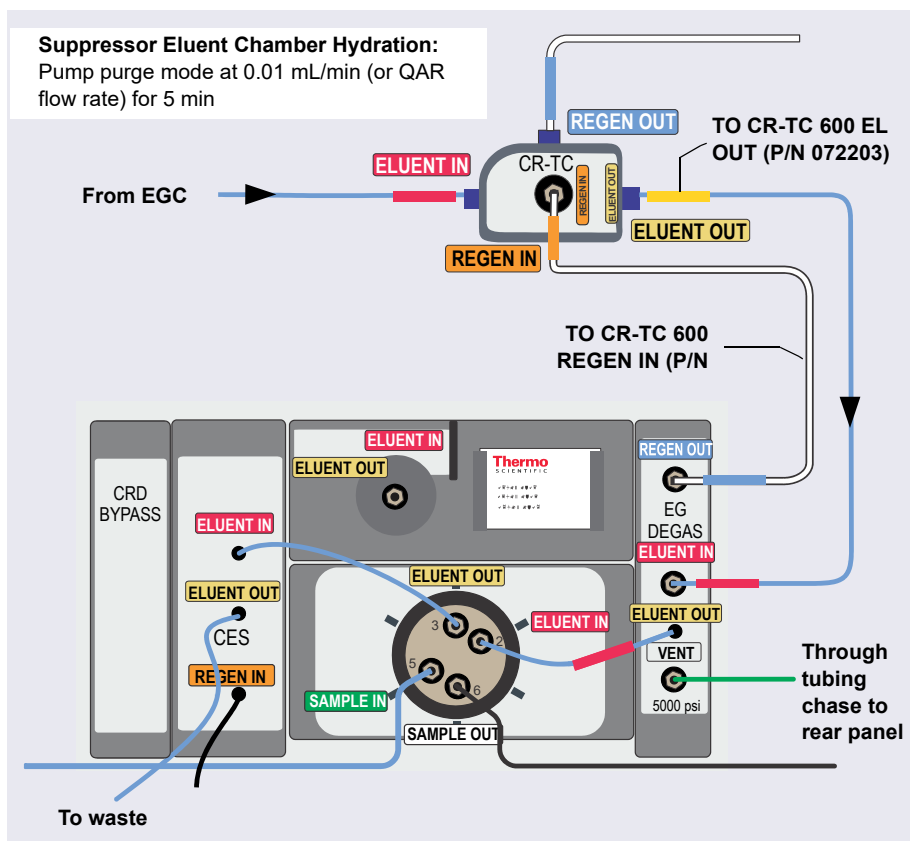

Figure 10-47. Flow Schematic for Hydrating the Suppressor Eluent Chamber in a Capillary IC System
- Connect the plumbing for suppressor hydration as shown in Figure 10-47.